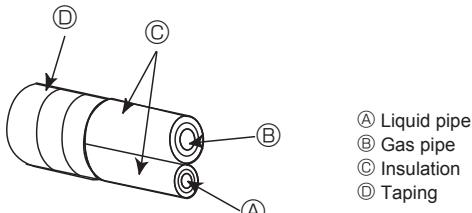
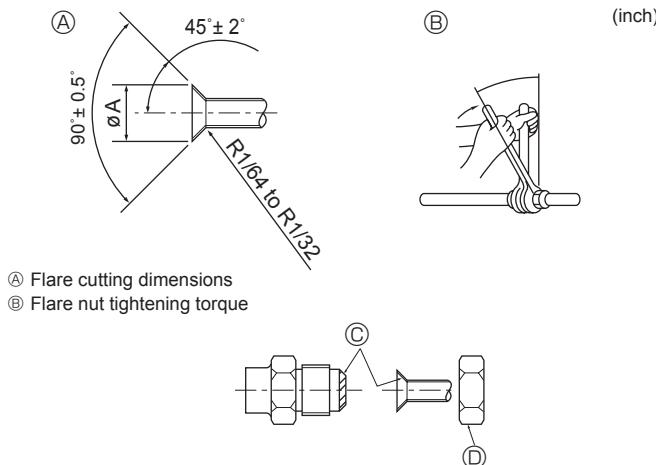

Fig. 4-1
Fig. 4-2
Ⓐ (Fig. 4-1)
Ⓑ (Fig. 4-1)
### 4.2. Connecting pipes (Fig. 4-1) (Fig. 4-2)
When commercially available copper pipes are used, insulate both the liquid and gas pipes separately with commercially available insulation materials (heat-resistant to 100 °C, 212 °F or more, thickness of 12 mm, 1/2 inch or more). (Fig. 4-1)
- The indoor parts of the drain pipe should be wrapped with polyethylene foam insulation materials (specific gravity of 0.03, thickness of 9 mm, 23/64 inch or more). [Fig. 4-2]